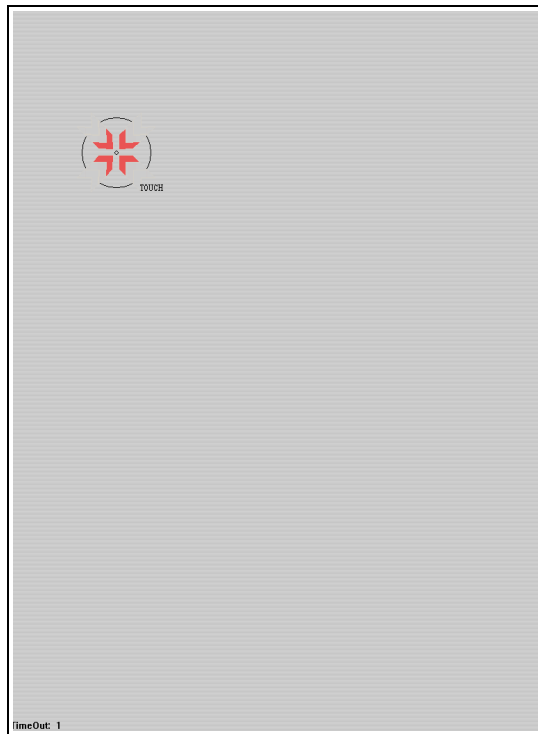

FIGURE 3-6 Example Calibration Display
3. Touch and hold the areas where indicated. Release the area when indicated (as shown in FIGURE 3-6).